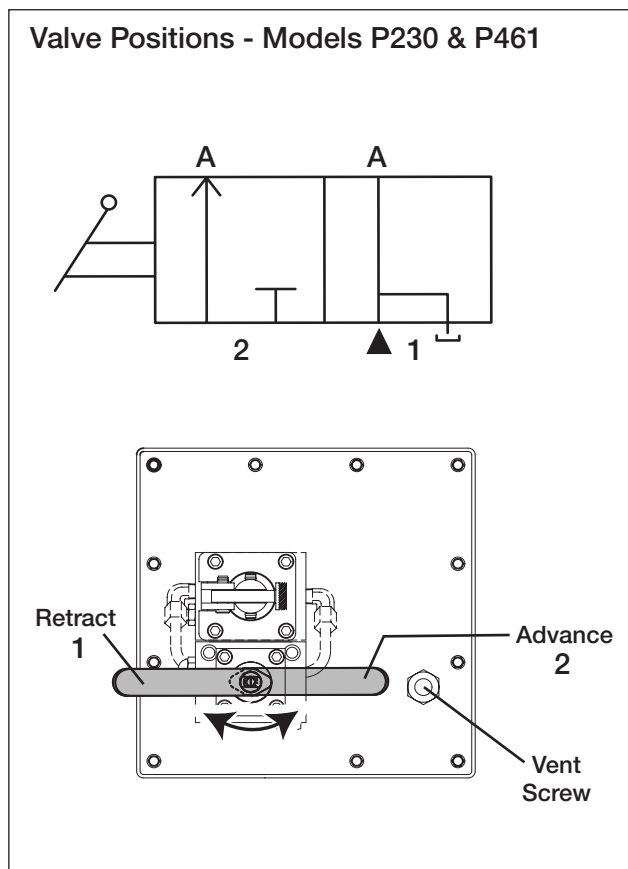

Figure 2
1. Shift the valve lever to the *advance* position. See Figure 2, position 2.
3. Slowly shift the valve lever to the *retract* position to release pressure and control the flow of oil back to the reservoir. See Figure 2, position 1.